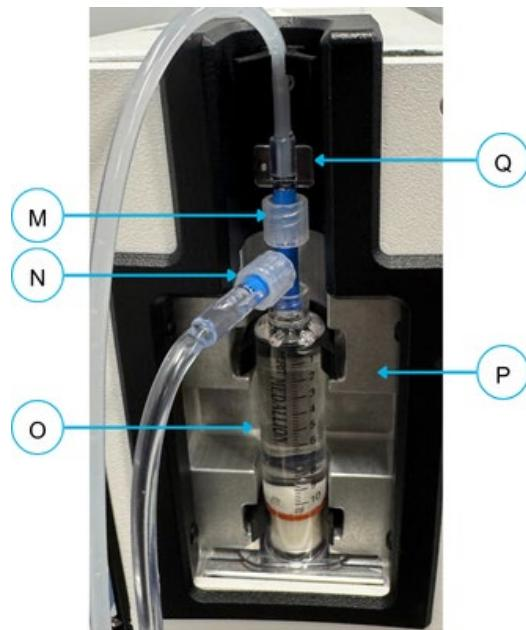

Figure 11-6: Auto-Refill Syringe Connections
1. Remove the Auto-Refill Syringe (**O**) from the Generator cavity to help make the Water Line connection (Figure 11-6).